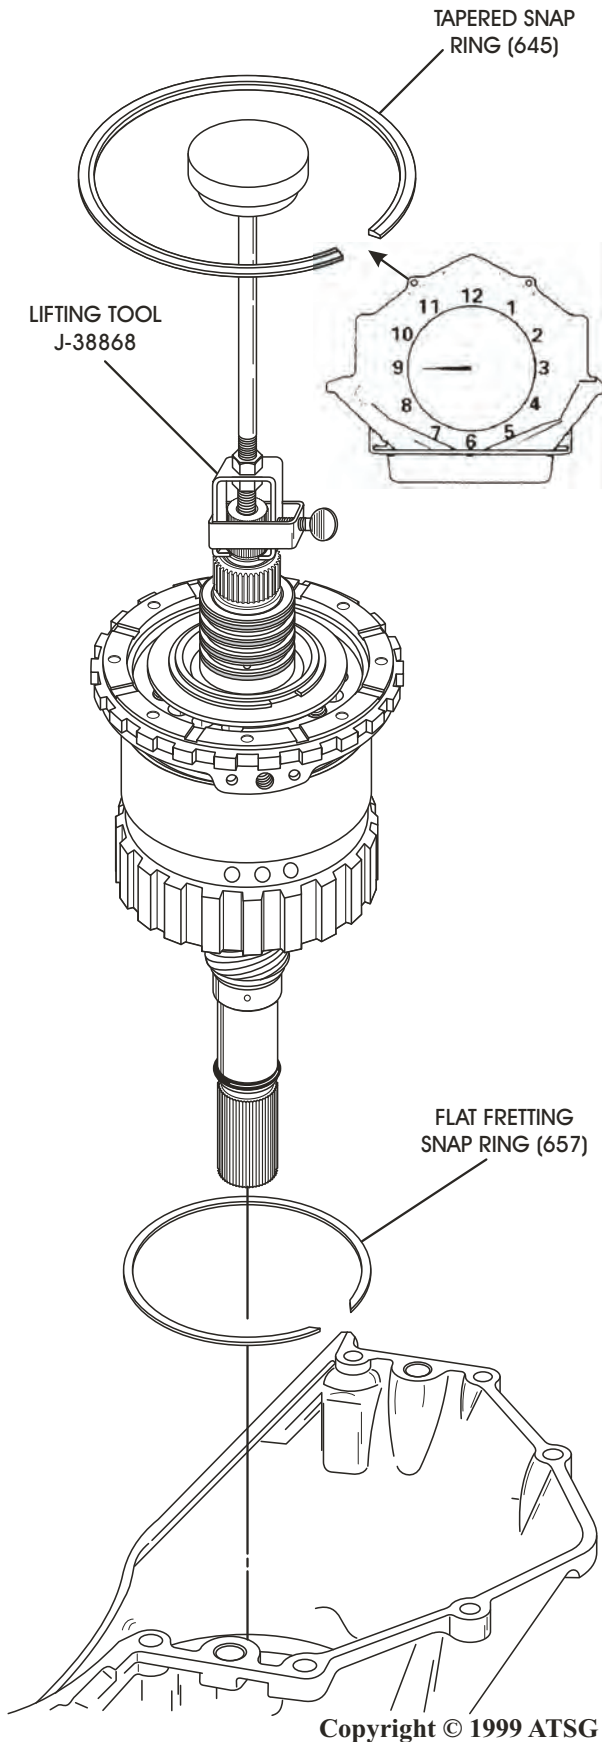

Figure 107
5. Install the completed gear train assembly into the transmission case, by carefully aligning the bolt hole in the center support with the hole in the case, and carefully lower into case. Refer to Figures 107 and 108.
7. Install the "Tapered" snap ring into the groove in the case with the opening in the snap ring to the 9 O-Clock position in the case, as shown in Figure 107.